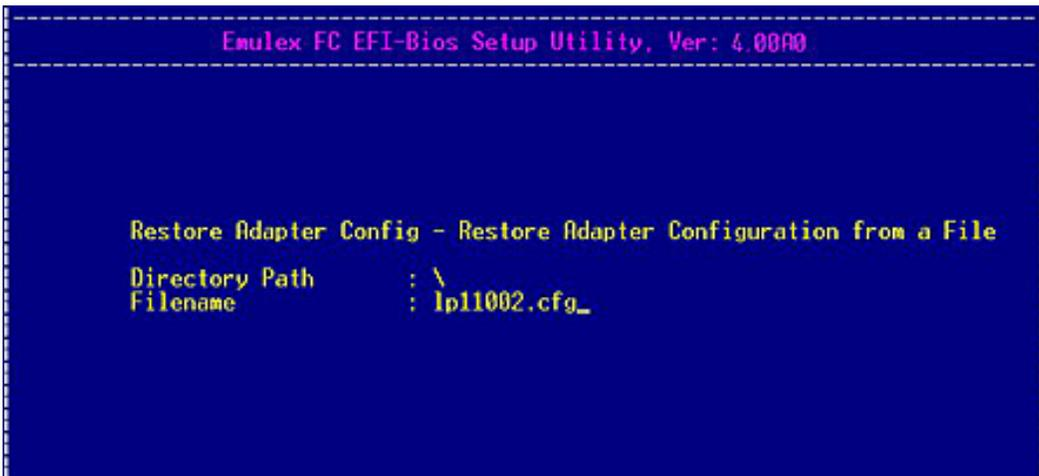

Figure 58: Read Configuration Path screen
2. Select **2. Read Configuration From File**. The screen shown in Figure 58 prompts you to enter a directory path to the previously saved configuration file.